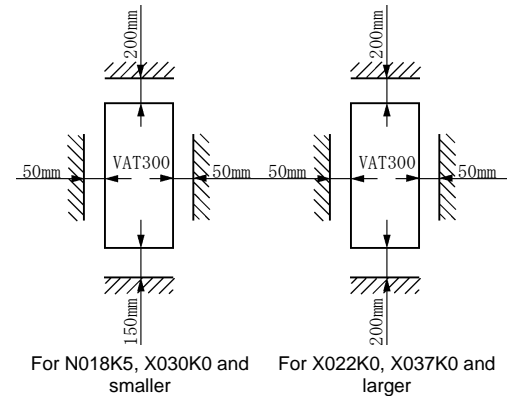

Fig. 2-1
- (4) Ensure ventilation space around the inverter. (Refer to Fig. 2-1.)